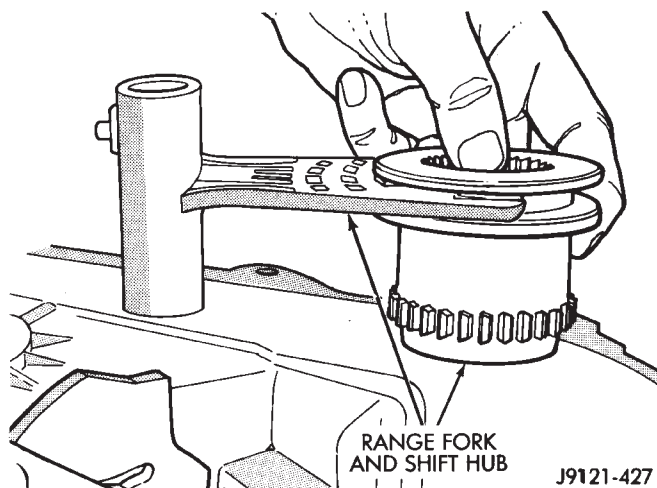

Fig. 51 Assembling Range Fork And Shift Hub
(6) Assemble range fork and shift hub (Fig 51).